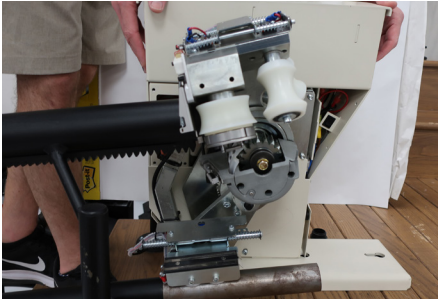

Figure 3-19
4. If installing on a standard incline, tilt the upper rollers to match the angle of the rails. This will allow the chassis to slide on. *See Figure 3-19.*